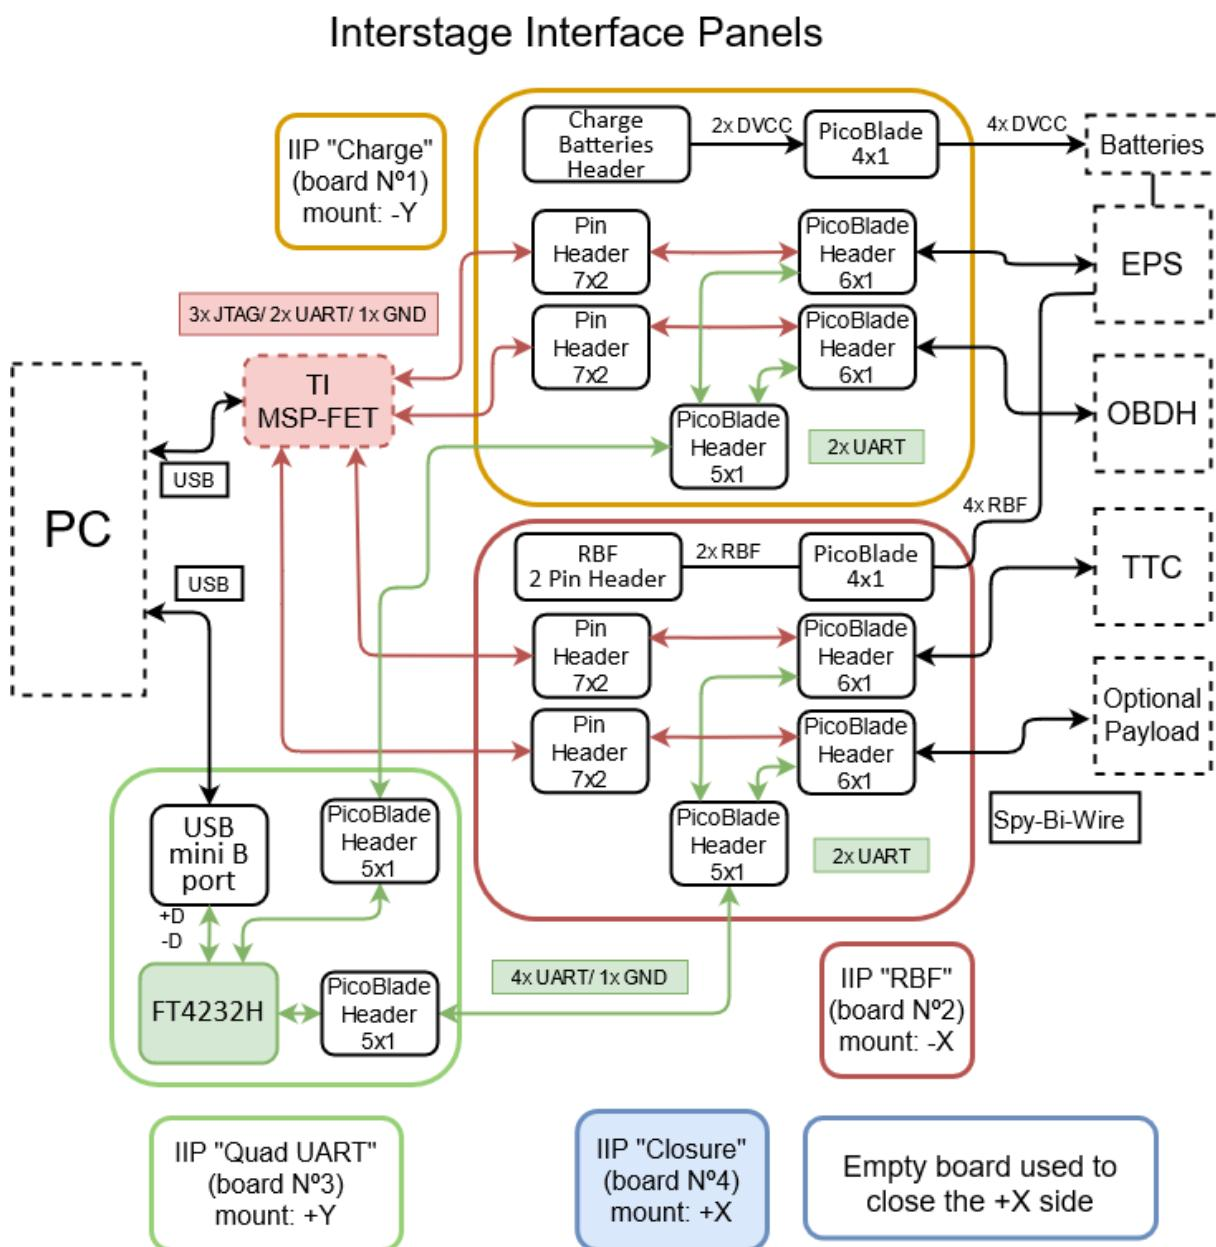

Figure 2.1: IIP hardware block diagram.
On figure 2.1 is displayed the full system block diagram with external devices such as the MSP-FET and a personal computer (PC) during normal usage of IIP. Up to four CubeSat modules can be accessed from its interfaces, been though the pin headers or the USB port. For a specific project, the core modules (EPS, OBDH and TTC) and a optional payload are already represented with their respective interconnections. These connections are done internally with PicoBlade connectors, which are compatible with SpaceLab's modules.
Internally these pin headers are interfaced via PicoBlades to be connected to the four modules inside the CubeSat. As can be seen in the block diagram figure 2.1 present on the overview chapter, each one of these PicoBlades is assigned to a specific module, they are showed in figures 3.9 and 3.10.